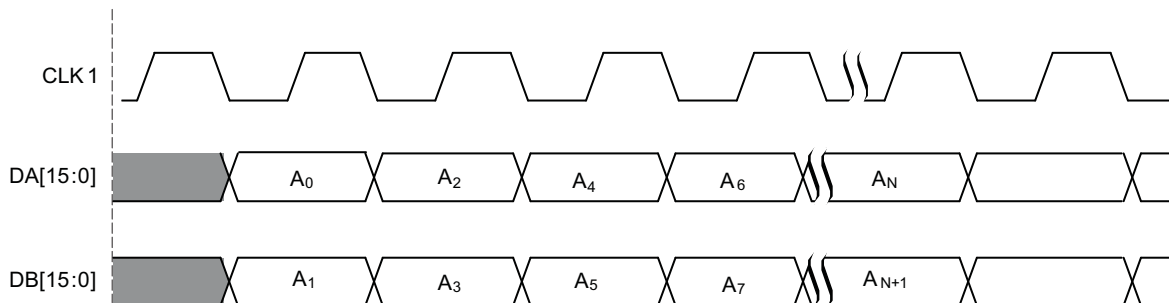

Figure 38. HALF RATE BUS MODE (PLL Clock Mode)
In HALF RATE BUS MODE, the user inputs data on both DA[15:0] and DB[15:0] ports at half rate and input logic merges both data streams into one DAC channel (A). This mode is selected by setting CONFIG1 **insel_mode[15:0]** = '11'. Refer to Figure 38.